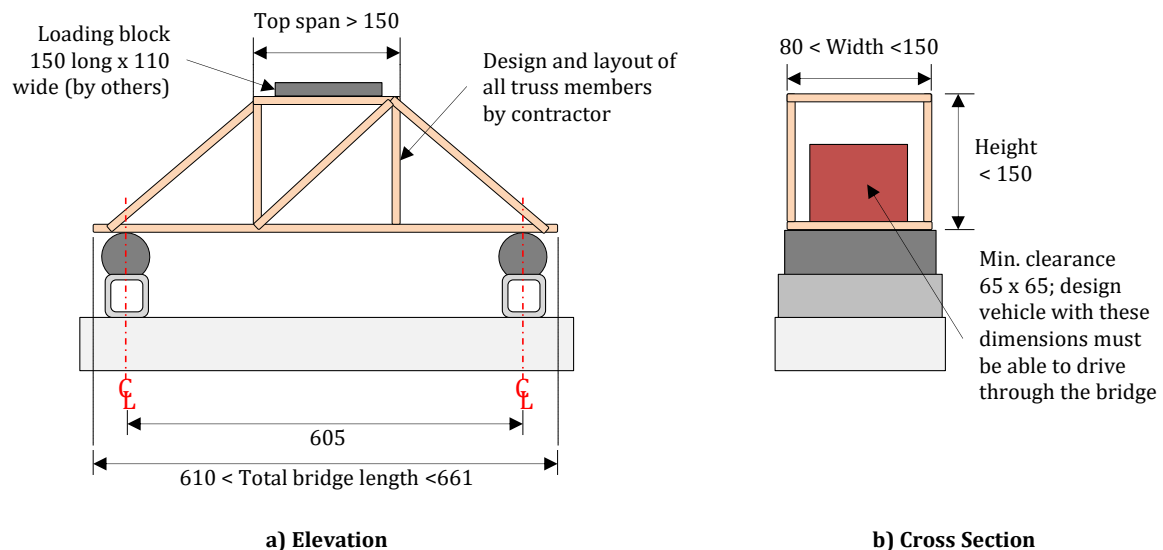

Figure 2: Geometric specifications and loading configuration (NTS)
- Bridges shall have a length, height, width, loading platform, and minimum clearance for traffic that comply with the dimensions shown in Figure 2 below. The placement of the bearing blocks is fixed as shown.